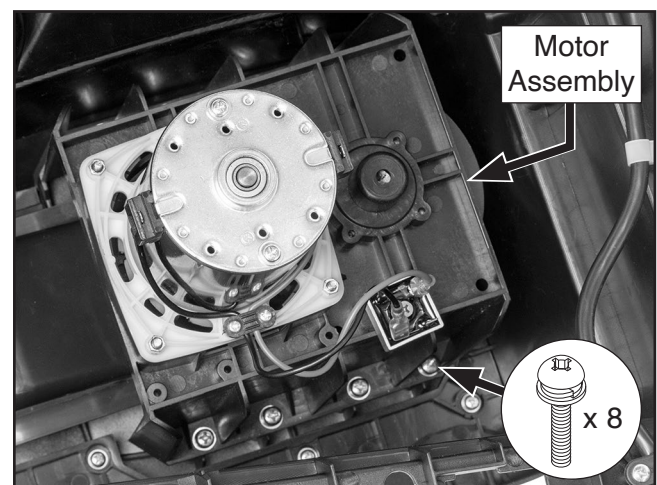

Figure 44. Location of motor assembly and motor assembly screws.
6. Remove (8) screws shown in **Figure 44** in order to remove motor assembly from machine.